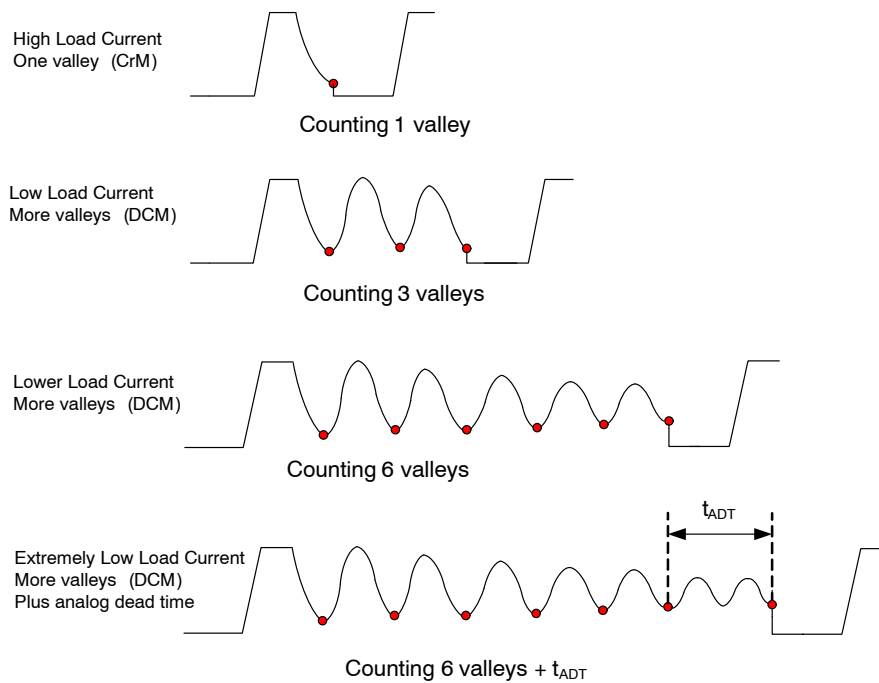
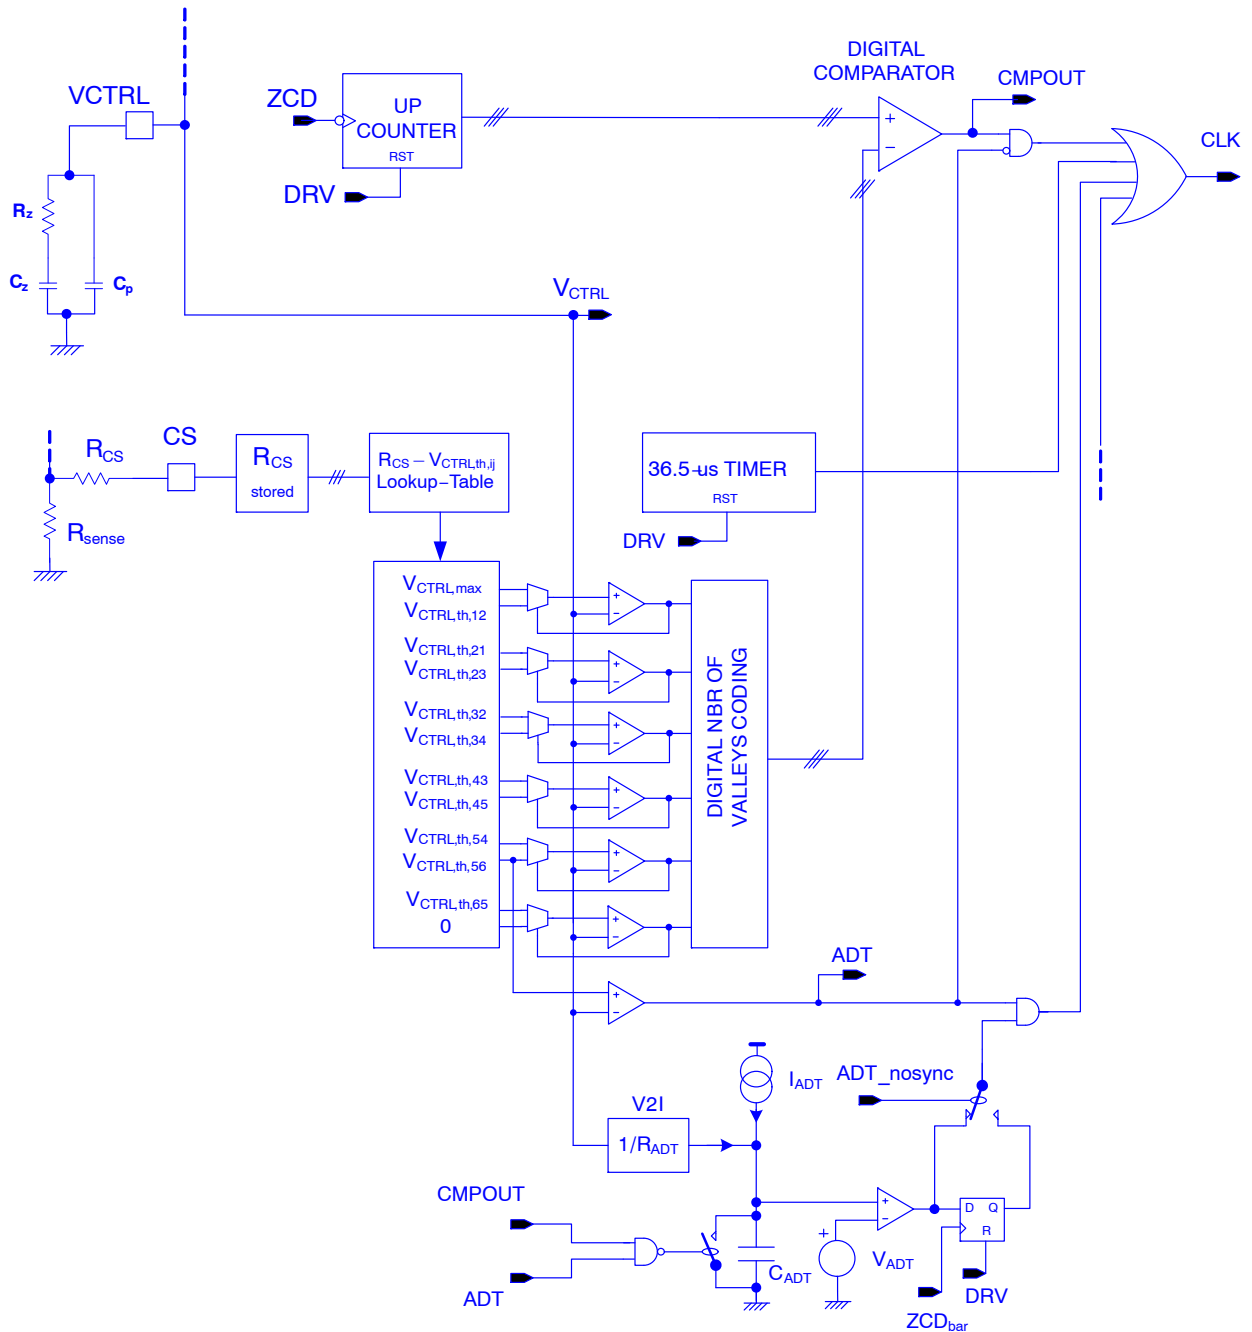

Figure 3. Valley Switching Operation in CrM and DCM Modes Seen Through Power MOSFET Drain Voltage
Figure 4. Valley Count Turn-on Block Diagram
- **Valley Count Frequency Fold-back:** NCL2801 is designed to drive PFC boost stages in so-called Valley Count Frequency Fold-back (*VCF*). In high load current condition, the circuit classically operates in *Critical conduction Mode (CrM)* also called 1st valley switching. When output power is decreasing, if a threshold is reached (determined by sensing the CS pin impedance during initial power up), a dead time based on a number of valleys is added. The number of valleys will increase, each time a dead time window (based on V_{CTRL} value) is entered. By construction, this counting process will avoid valley hopping during the mains voltage period. If the output power continues decreasing and the 6th valley is reached, extra “analog” dead time will be added based on a voltage ramp (see Figure 4). On-time will be synchronized with a valley. A timer will clamp the total switching period to not exceed 36.5 μ s (the switching frequency will never go under about 27.4 kHz). The switching frequency depends on output voltage, input voltage, and boost inductor value, and increases as the load power increases. Hysteresis is added to the V_{CTRL} control windows to avoid valley hopping during steady state conditions. *VCF* maximizes the efficiency at both nominal and light load. Similarly to *FCCrM* controllers, an internal circuitry allows near-unity power factor even when the switching frequency is reduced.
valley number count up to 6 valleys (the number of valleys between end of inductor demagnetization and power MOSFET turn-on determines the dead time value). After counting is done, the power MOSFET turns on at drain voltage valley. When 6th valley is reached and VCTRL voltage stays under 0.77 V, an extra “analog” dead time is added based on a voltage ramp (see Figure 4). The added analog dead time tADT is based on 0.77 V minus VCTRL value. tADT will be equal to zero when $(0.5\text{ V}-V_{CTRL}) = 0\text{ V}$ and will increase monotonically versus VCTRL decreases while VCTRL is under the 0.77 V threshold corresponding to $V_{CTRL,th,56}$. The analog dead time added tADT will equal typically 20 μs when VCTRL=0.5 V.
As illustrated in Figure 3, under high load conditions, the boost stage is operating in CrM (only one valley is counted before turning on the power MOSFET). The second example shows a DCM state of operation where 3 valleys have been counted before turning on the power MOSFET. The third example shows a DCM state with lower output power than the previous one where 5 valleys have been counted before turning on the power MOSFET. The fourth example shows how additional dead time is added after 6th valley.
means of counting the falling edges of the ZCD signal until the counter reaches the number of valleys set by the window in which the VCTRL pin voltage is (see Figure 4). The 3-bit counter allows to work “Valley synchronized” up to 6 valleys. When the 6th valley is reached, and VCTRL is lower than 0.770 V ($V_{CTRL,th,56} = 0.770$ V whatever frequency foldback threshold setting), an additional analog dead time will be added to the 6 valleys dead time and there will be valley synchronization turn-on of the power MOSFET ($ADT_nosync = 0$ by default) based on falling edge of ZCD signal. The total dead-time (number of valleys and extra analog dead-time) will not exceed 36.5 μ s. As a result of this timer the minimum switching frequency will not go under 27.4 kHz.
There will be a different DCM to CrM threshold than CrM to DCM making an hysteresis to avoid valley hopping (see Table 7 and Figure 4).
results from output power decrease. We can also mention looking at Figure 7 and the specified frequency foldback thresholds of Table 7 that $V_{CTRL,th,56}$ which is the V_{CTRL} threshold at which we force counting 6 valleys, has always the same value. This threshold is also called $V_{CTRL,ADT}$ because when V_{CTRL} pin voltage falls under this threshold, an analog dead-time starts to be added to the dead-time determined by counting 6 valleys. The lower V_{CTRL} pin voltage goes under $V_{CTRL,ADT}$ threshold, the more analog dead time is added. An example on how the analog dead time can be added is shown in the circuit of Figure 4 and the correspond power MOSFET drain voltage is shown in Figure 3.